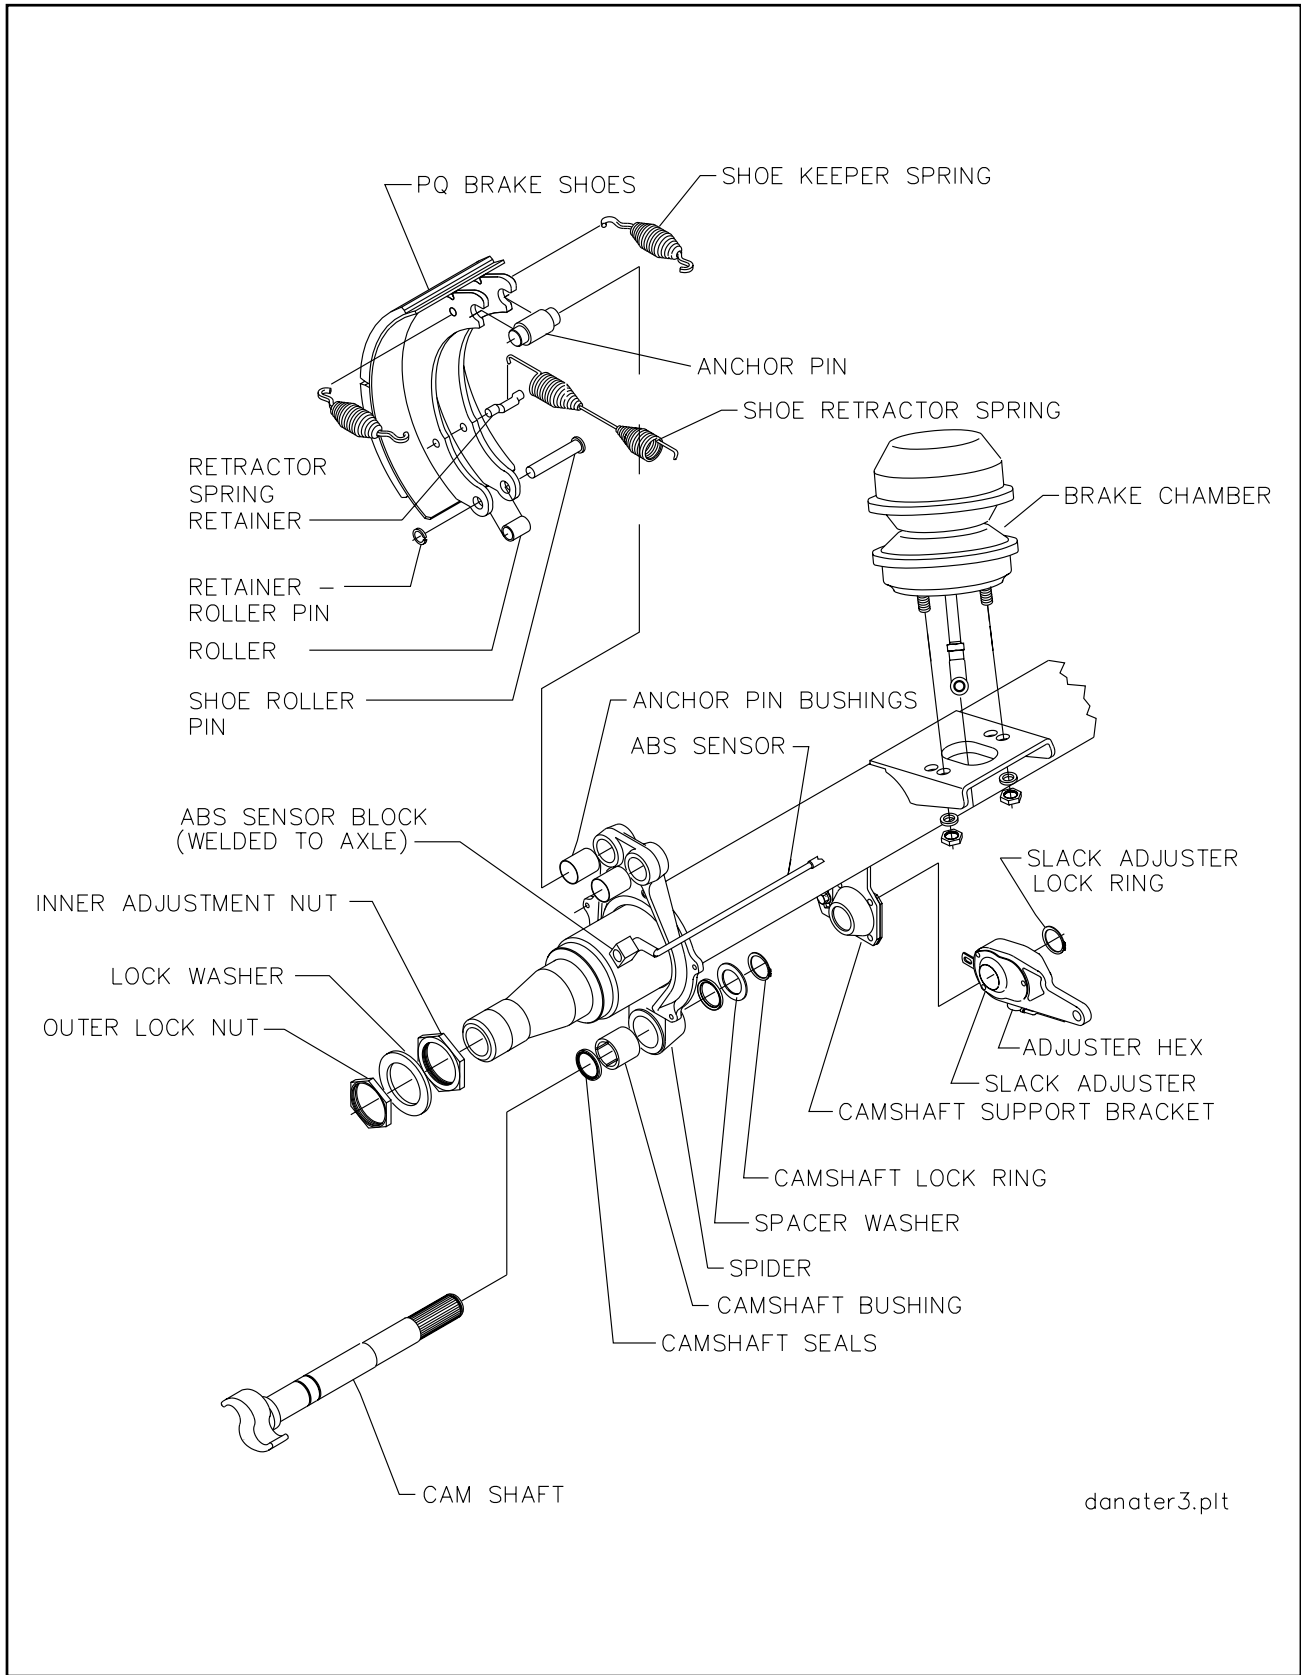

Figure 4-9 Axle and Brake Assembly
b. Disassembly for 12-1/4" X 7-1/2" Brakes (See Figure 4-9)
3. Remove drum assembly (See Figure 4-9).
c. Reassembly for 12-1/4" X 7-1/2" Brakes (See Figure 4-9)
d. Disassembly for 16-1/2" x 7" Brakes (See Figure 4-9)